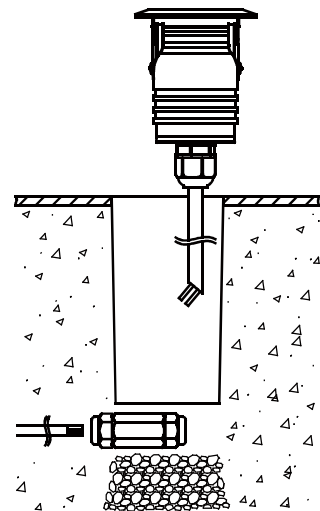

Fig 2.3
2.3 Connect the light fitting cable to the junction box. (See Fig 2.3)